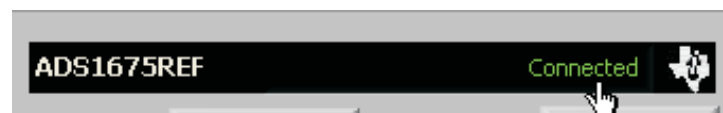

Figure 5. ADS1675REF Plug-in Status Information Display Window
- Step 3. The ADS1675REF plug-in window has a status area at the top of the screen. When the plug-in is first loaded, the plug-in searches for the board. You will see a series of messages in the status area that indicate this action, such as *Connected* (as Figure 5 illustrates).